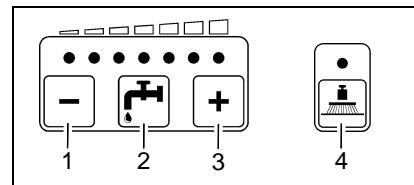

Fig. 22
- Reduce solution quantity (Fig. 22/1)
- Increase solution quantity (Fig. 22/3)
- Solution on/off (Fig. 22/2)
- Increase brush pressure (Fig. 22/4)